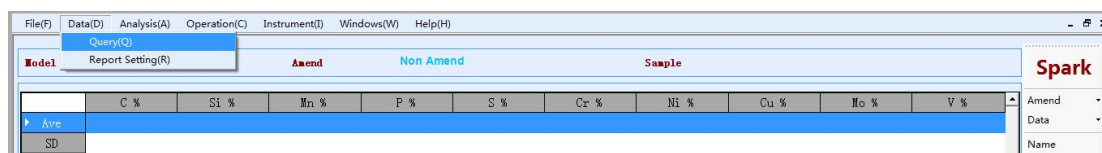

Figure 5-3 Query analysis data
Step 1 Locate the “Query Analysis Data” of “Data” in the menu bar, as shown in Figure 5-3: